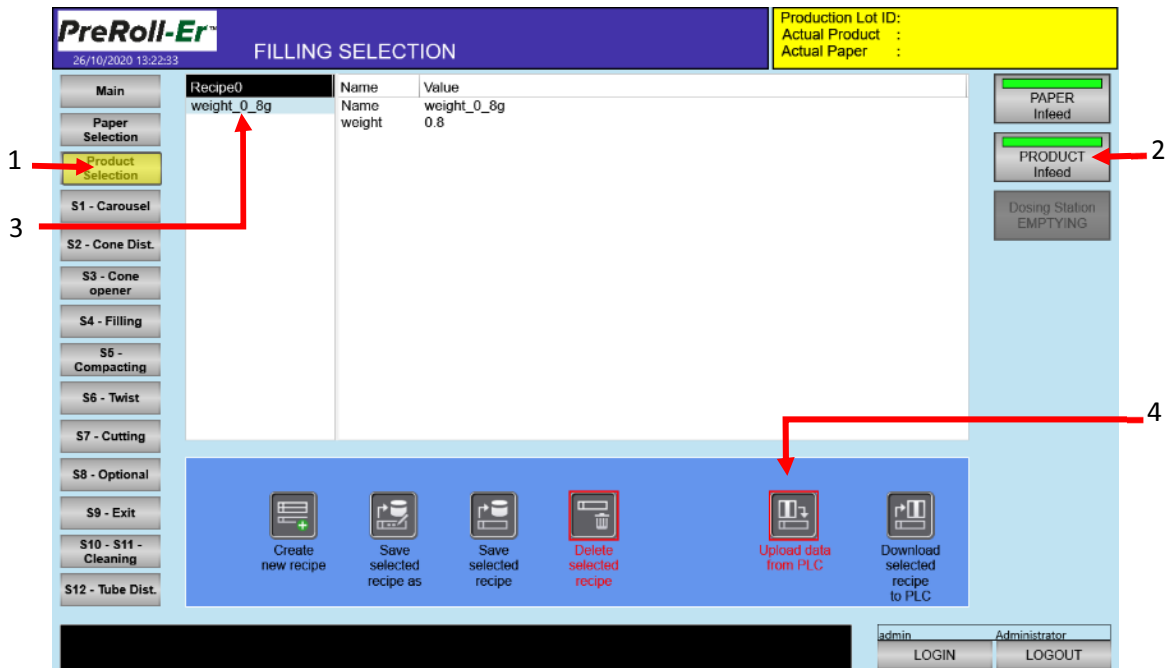

Figure 4-4 Product selection screen
- Step 1: Click on [Product Selection], the screen displays as shown in Figure 4-4.